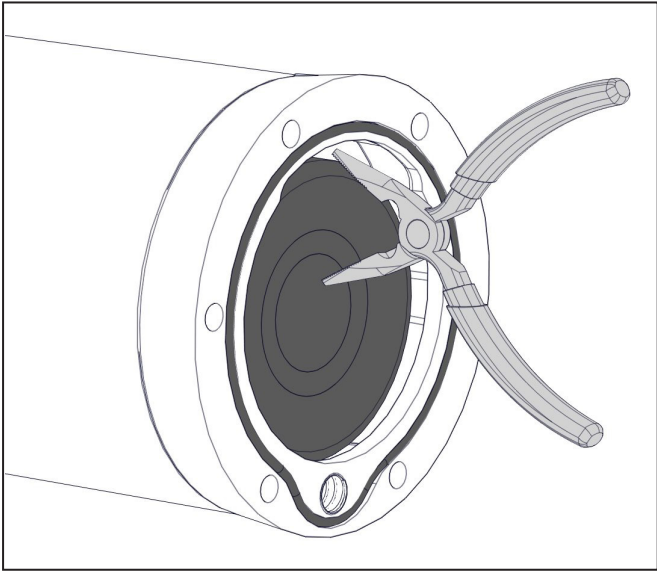

Figure 30 — Replacing the Coalescing filter spring
- ☐ Remove the Viton O-ring, coalescing element and wave spring from the AOST (Figure 30).